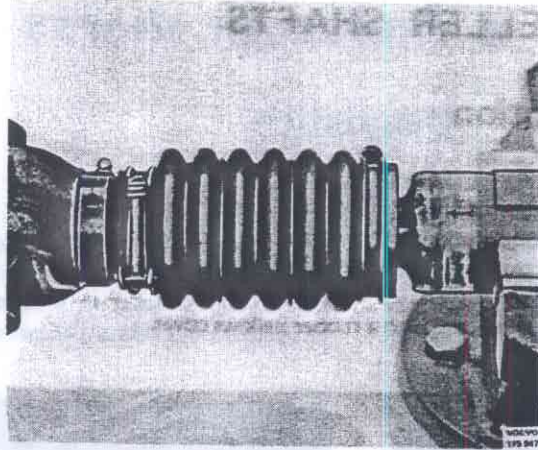

Fig. 45-4. Removing the axel
6. Check to make sure that the slide joint is free from dirt. Push the tube into the slide joint and note the line-up marks when doing so, see Fig. 45-4.